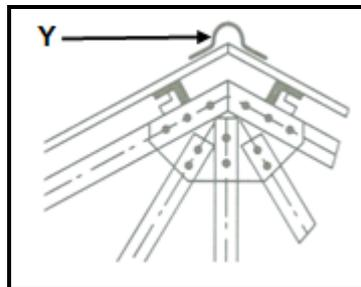

FIGURE 4.2
4.2 FIGURE 4.2 below shows a portion of a roof truss. Identify component Y.